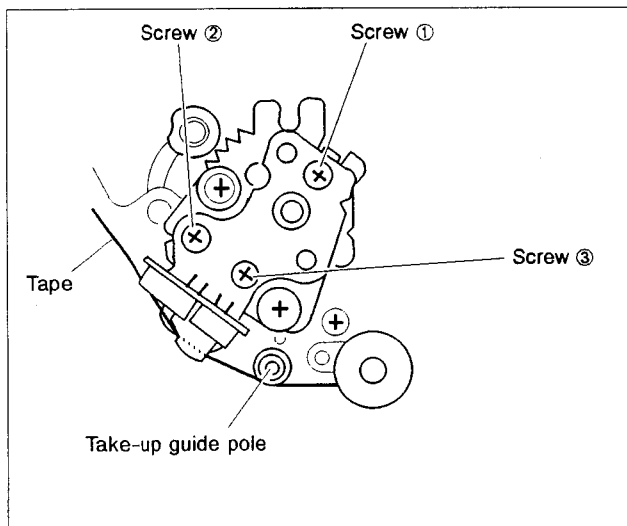

Fig. 2-7-1 A/C head tilt adjustment
- 2) Turn 1 screw ① clockwise to where the tape curls just slightly at the take-up guide pole bottom flange, as shown in Fig. 2-7-1.
- 3) Then slowly turn screw ① counter-clockwise to where the curling ceases.
- 3) Adjust 1 screw ② on the A/C head arm assembly in Fig. 2-7-1 so that the audio output is both maximum and with minimum fluctuation.